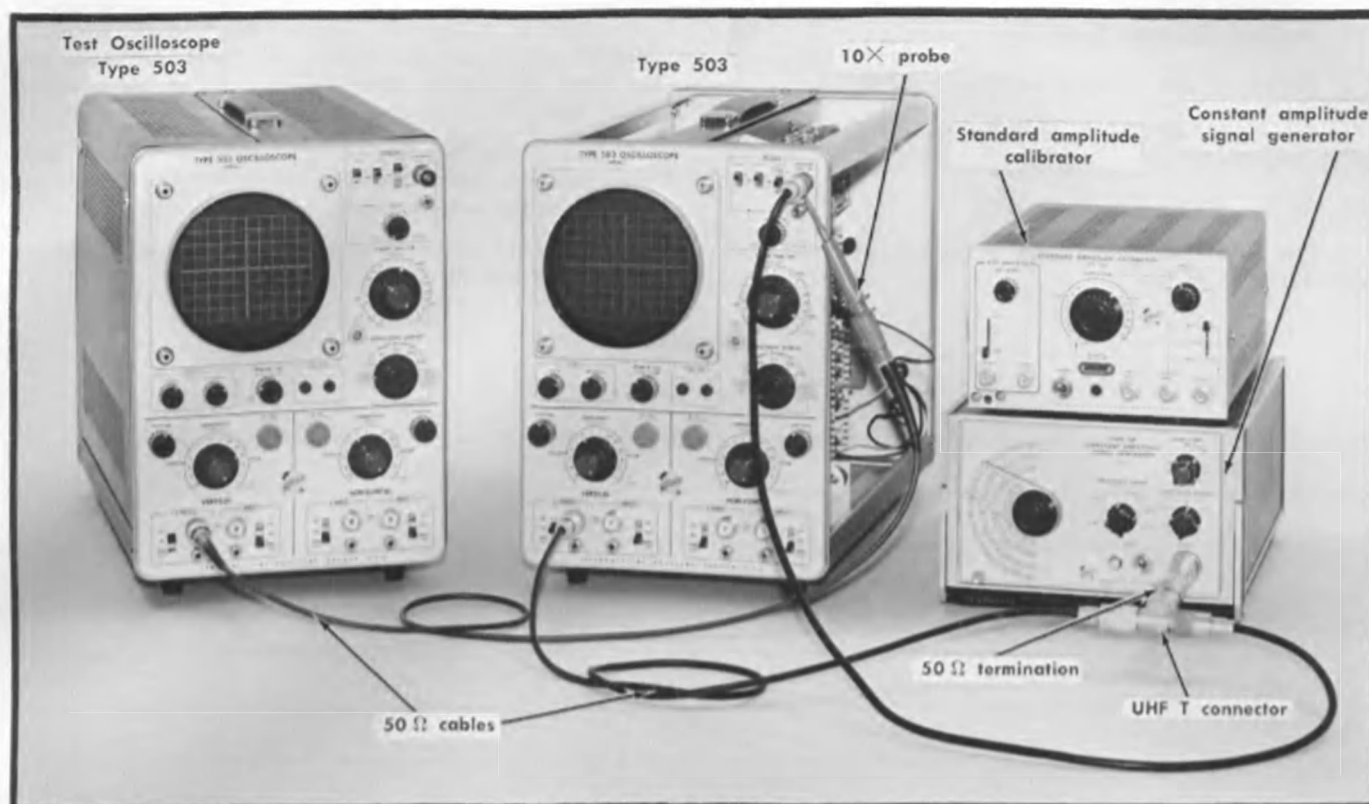

Fig. 6-28. Initial test setup for checking sweep triggering.
a. The initial test setup is shown in Fig. 6-28.